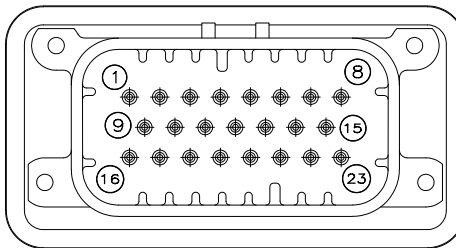
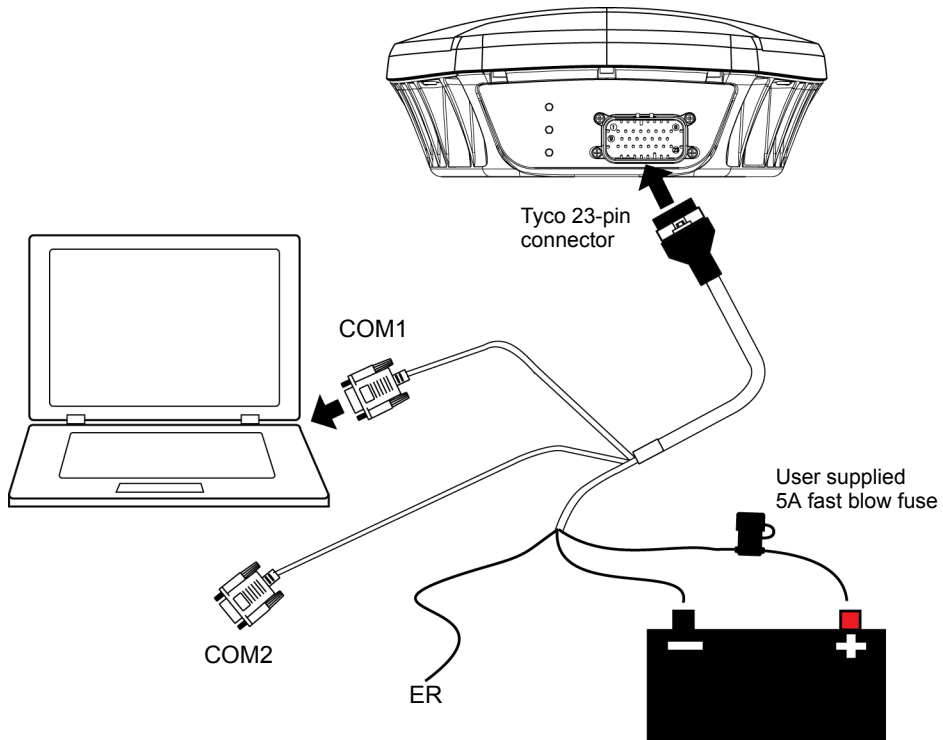
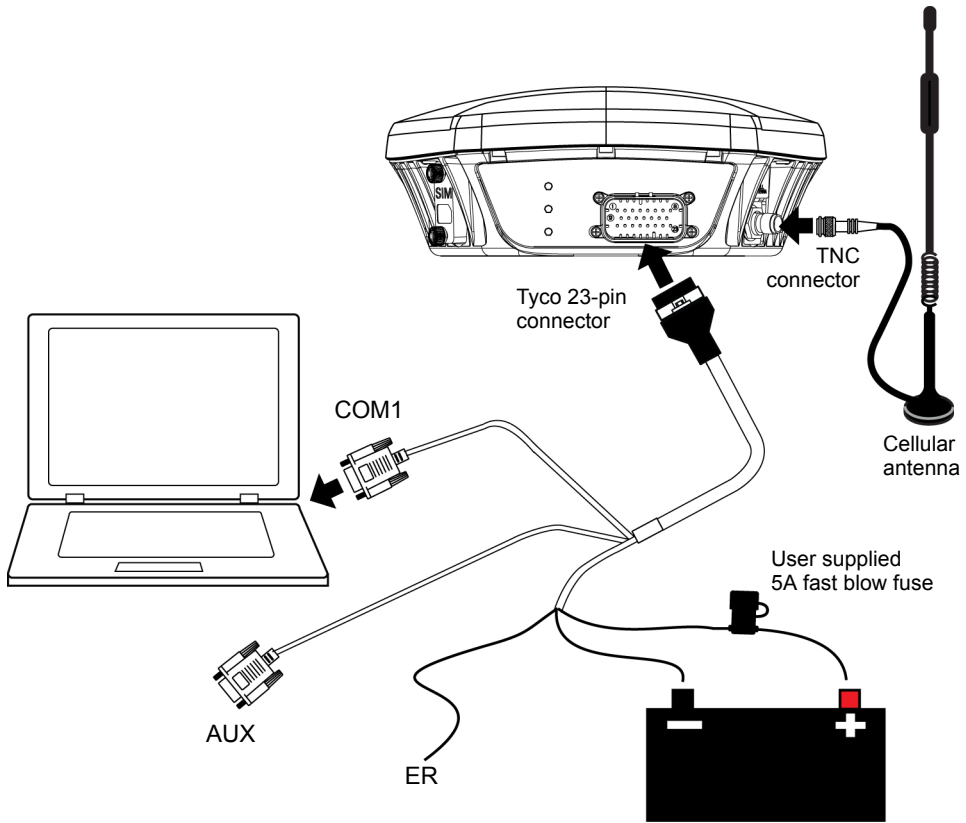

Figure 7: SMART-MR10/15 Connector
Figure 8: SMART-MR10 Streamlined Cabling
Figure 9: SMART-MR15 Streamlined Cabling
- SMART-MR10/15 cable (see *Appendix D Replacement Parts* starting on *page 126* for part numbers). Refer to *Figure 8, SMART-MR10 Streamlined Cabling on page 32* for COM and power connections.
1. Connect the cable to the SMART-MR10 or SMART-MR15 connector, shown in *Figure 7 below*. Route the cable to the other system components and secure it. If you are using the NovAtel streamlined cable, the system is as illustrated in *Figure 8, SMART-MR10 Streamlined Cabling on page 32* and *Figure 9, SMART-MR15 Streamlined Cabling on page 33*. The pinouts for the SMART-MR10/15 connector are described in *Table 3, SMART-MR10 Connector Pin-Out on page 34* and *Table 5, SMART-MR15 Connector Pin-Out on page 35*.
If the MODE pin is tied high, it must be tied high through a fuse. In this case, MODE can be tied to the same fuse as the red power lead, as illustrated in *Figure 8, SMART-MR10 Streamlined Cabling on page 32*. It is never acceptable to connect wiring directly to the positive side of the power source.